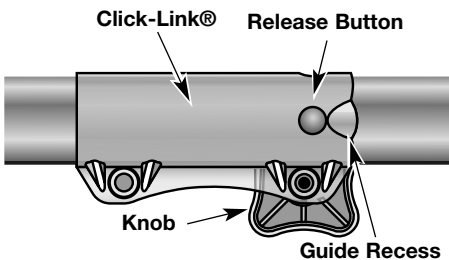

Fig. 12
1. Loosen the knob counterclockwise (Fig. 12).
NOTE: Aligning the release button with the guide recess will help installation (Fig. 12).
2. Press and hold the release button (Fig. 12).